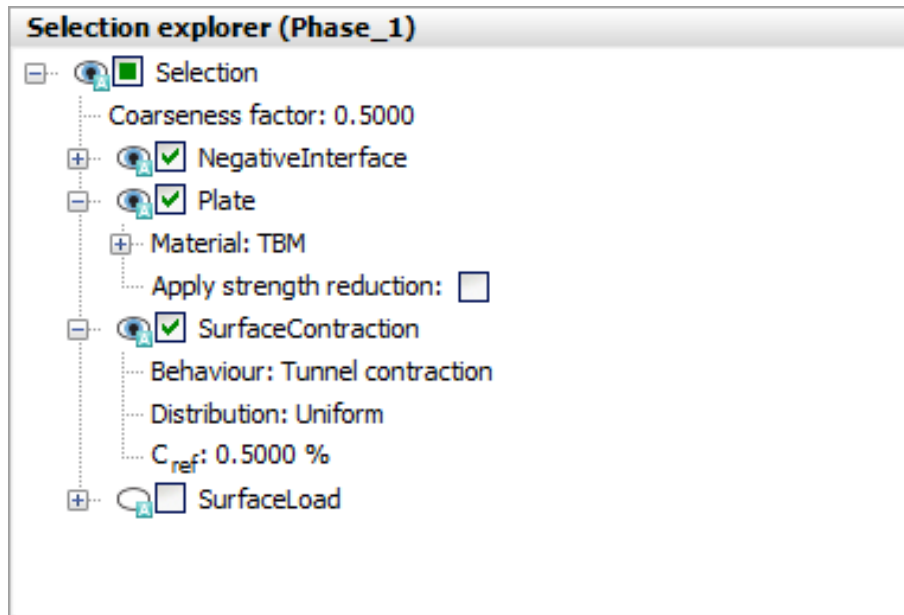

Figure 87: Phase 1 -Activation of plate and surface contraction in the tunnel 0 - 25 m
- b. Activate the **Plate** and the **Surface Contraction** by clicking on the corresponding check boxes (see Figure 87 (on page 111)).